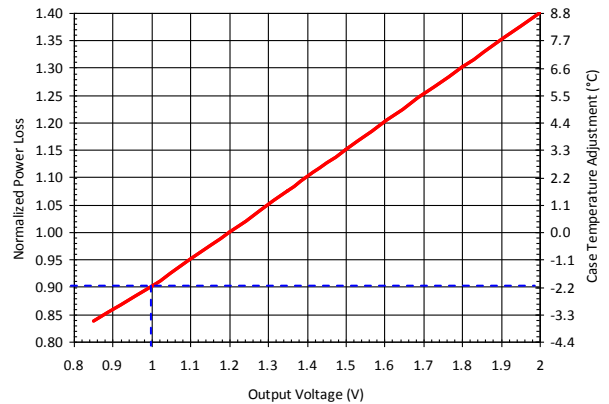

Figure 12: Normalized Power Loss vs. Output Voltage
- 3) Determine the output voltage normalizing factor with $V_{OUT}=1V$, which is 0.90 based on the dashed lines in Figure 12.